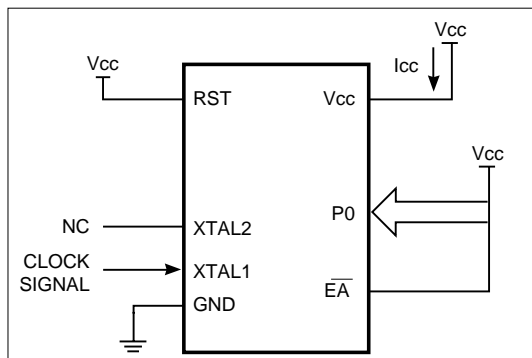

Figure 13. Active Mode
1. See Figures 13, 14, 15, and 16 for I_{cc} test conditions.